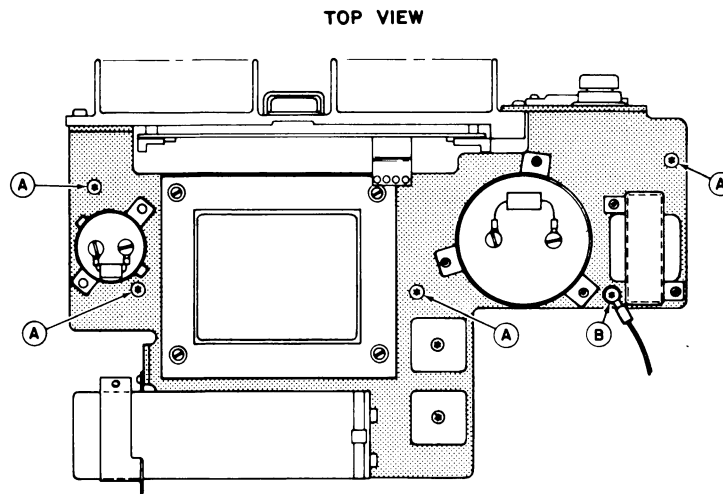

Figure 4-7. POWER SUPPLY ASSEMBLY MOUNTING SCREWS
- 4) Remove the four mounting screws (A) and the ground strap screw (B) identified in Figure 4-7.